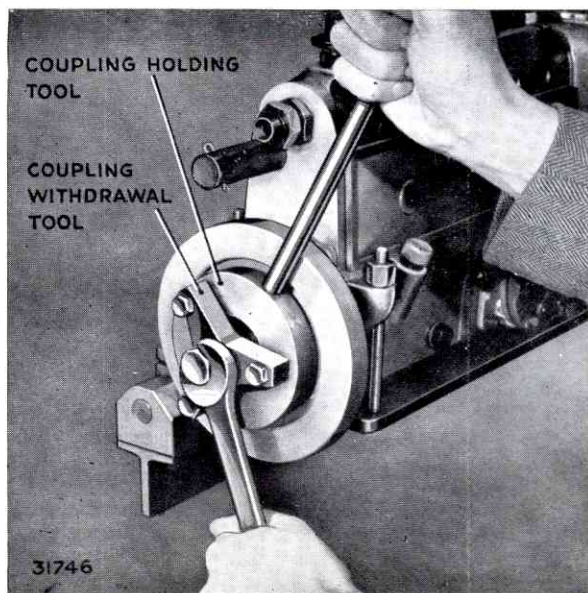

FIG. 63. REMOVING INJECTION-PUMP FLYWHEEL
6. Remove the injection pump flywheel using the withdrawal and holding tool (Fig. 63). The removal of the flywheel from the tapered end of the camshaft must never be done by the use of a hammer or drift.